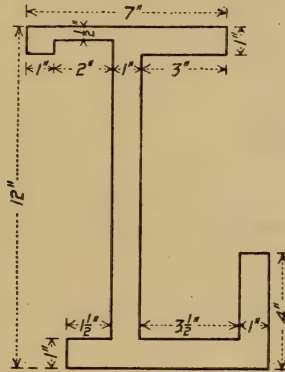

FIG. 7.
2. Show how to find, experimentally, the center of gravity of a shape of irregular section (Fig. 7), where the end is cut in a plane normal to the longitudinal axis of the piece and can be easily reached for inspection and measurement. Let the section be that shown in the diagram. Find, also, the center of gravity of this section analytically.